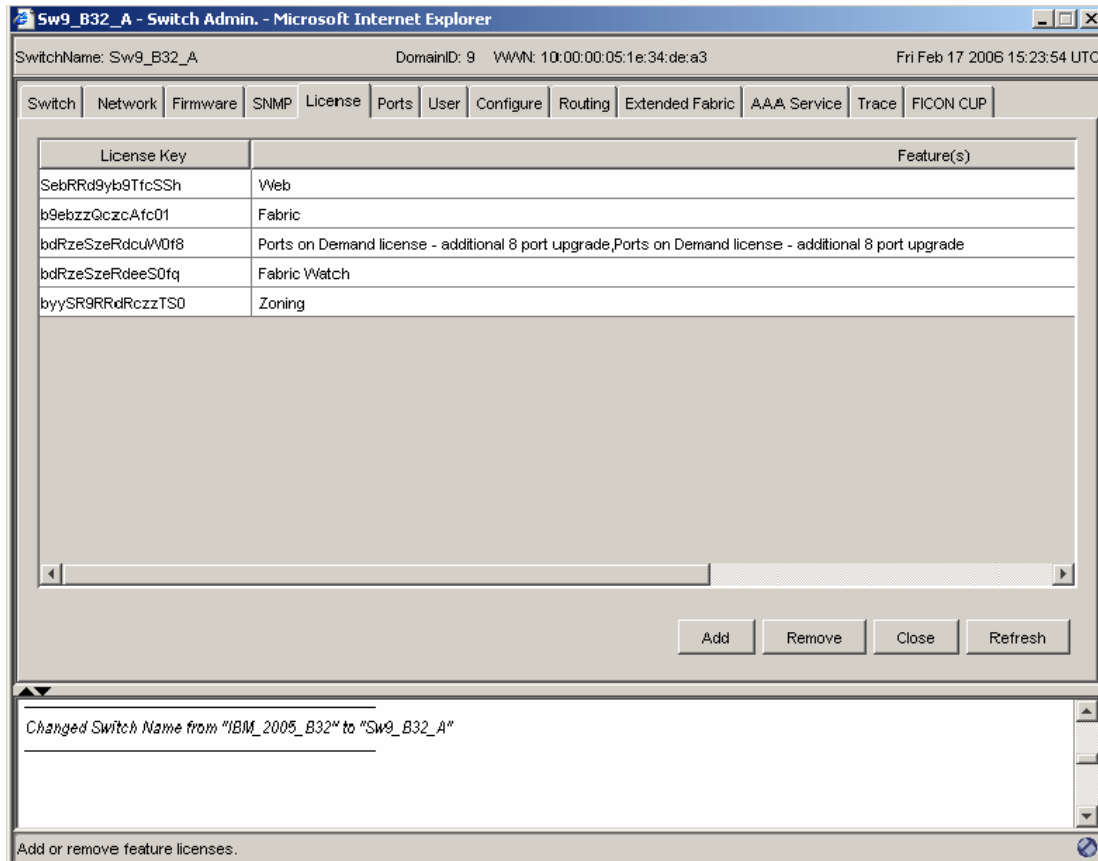

Figure 5-28 License Management window
4. Use Web Tools to enable the licensed feature. Under the Admin Window, select the **License** tab and use the **Add** button to add the License Keys (see Figure 5-28).